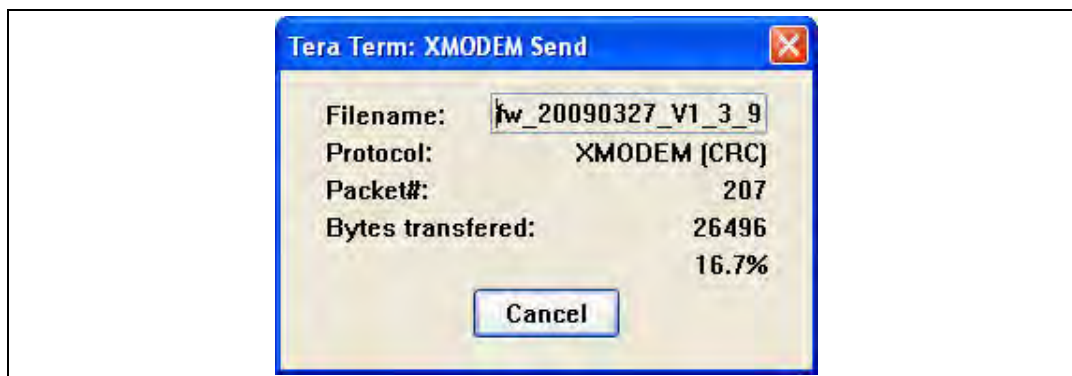

Figure 6.6 Tera Term XMODEM Send Dialog Box
11. In the **XMODEM Send** dialog box, use the **Look in:** menu to navigate to and select the location to which you downloaded the ITS-DX4020-G binary file. Refer to *Figure 6.6*, *Page 40*.